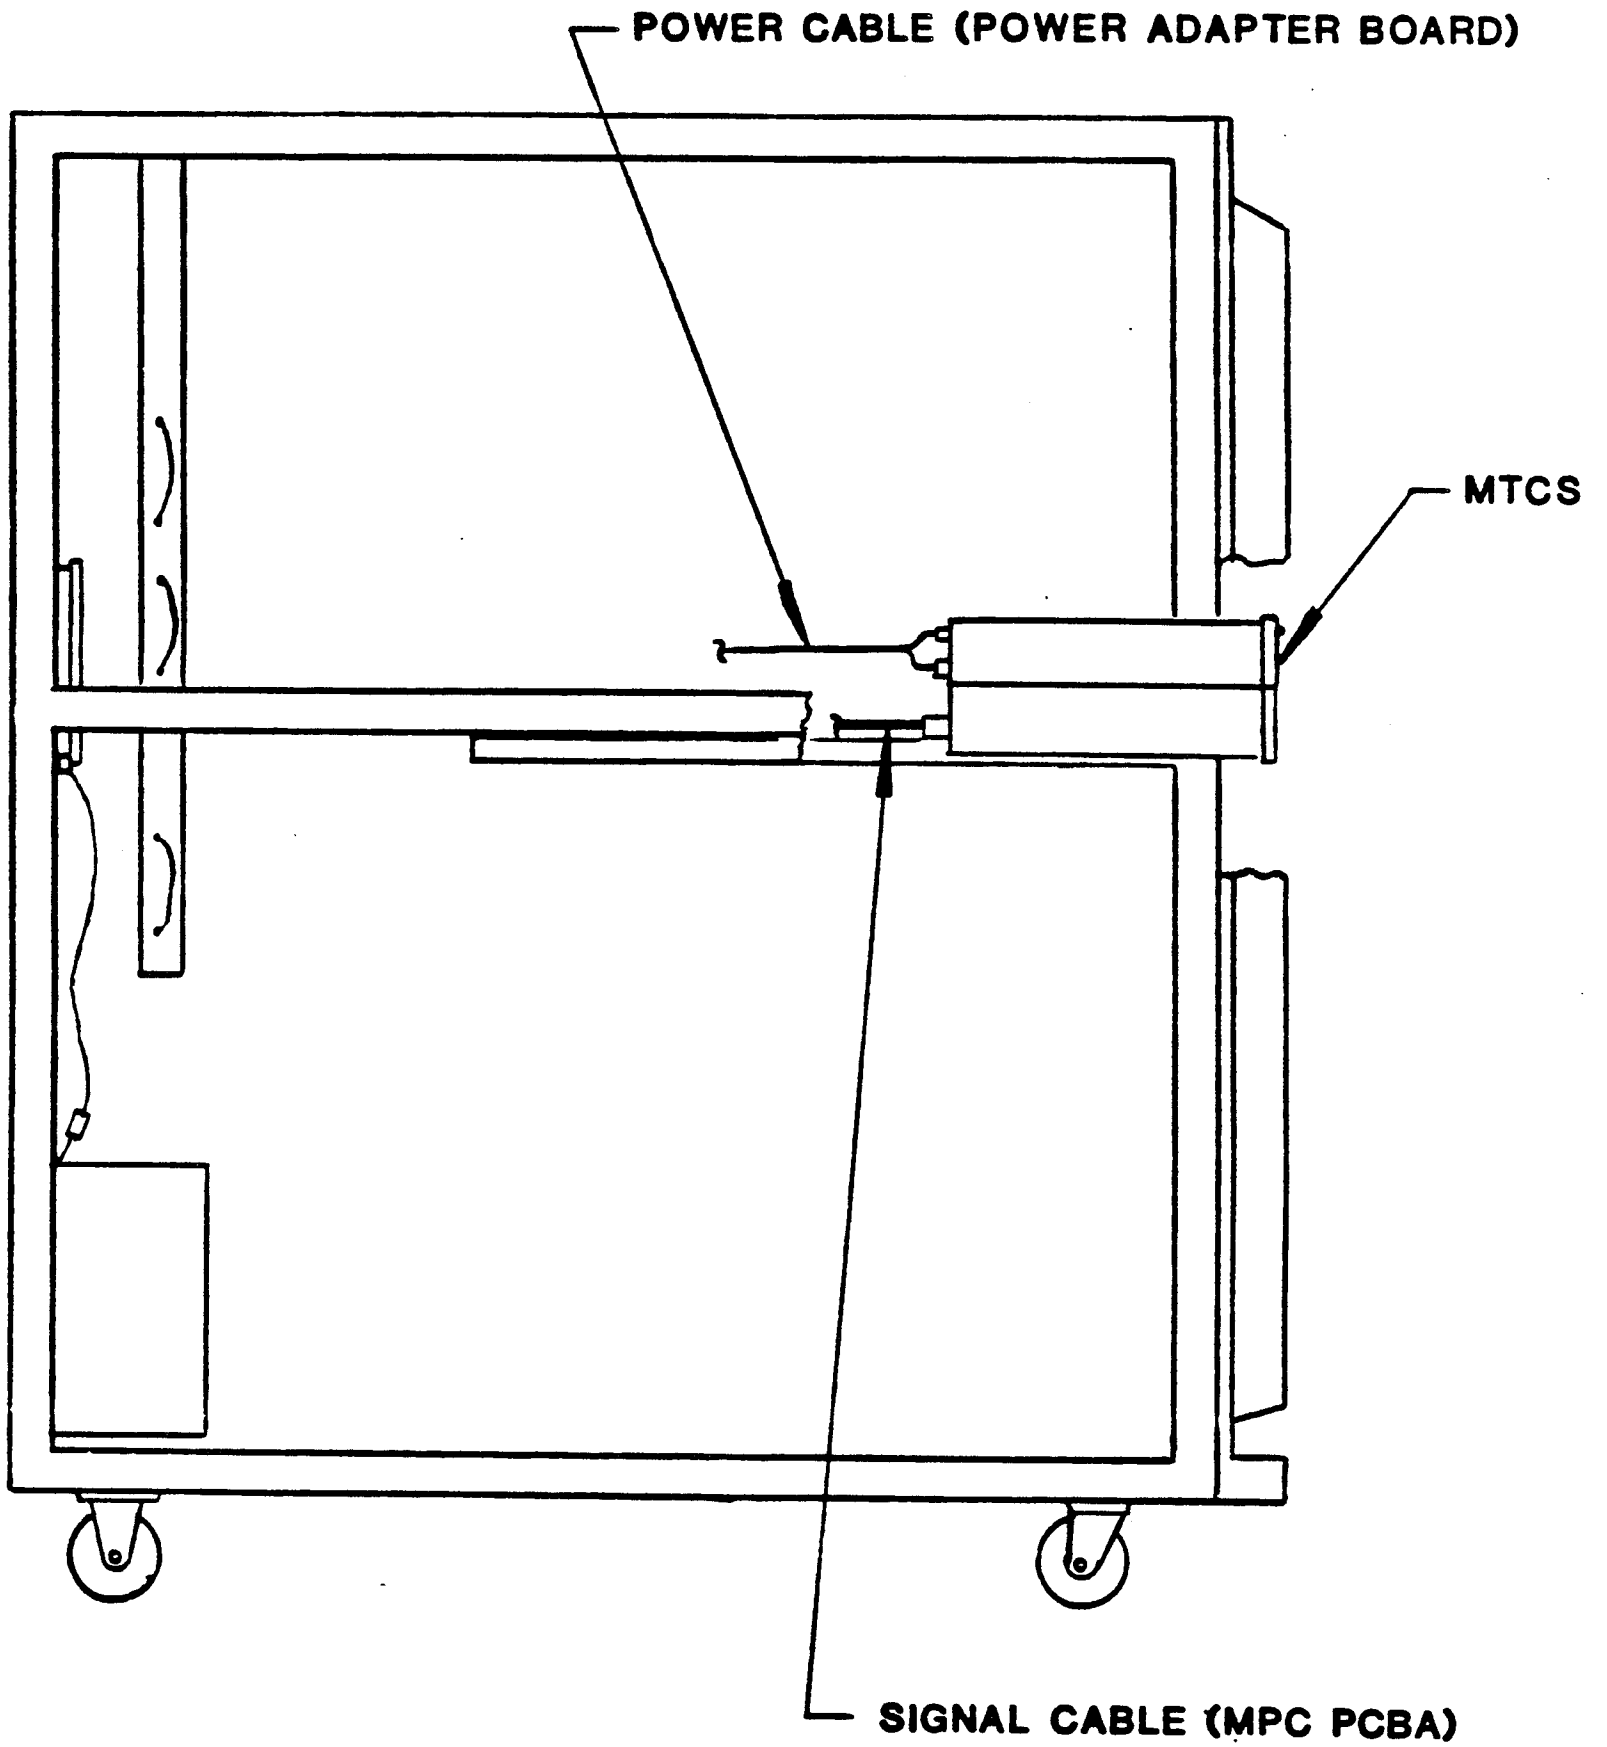

Figure 4-1. MTCS Cable Routing
4. Mount the MTCS to the chassis (refer to Figure 4-1), and install and route the 907174-029 bus cable assembly from the MPC controller to the MTCS.